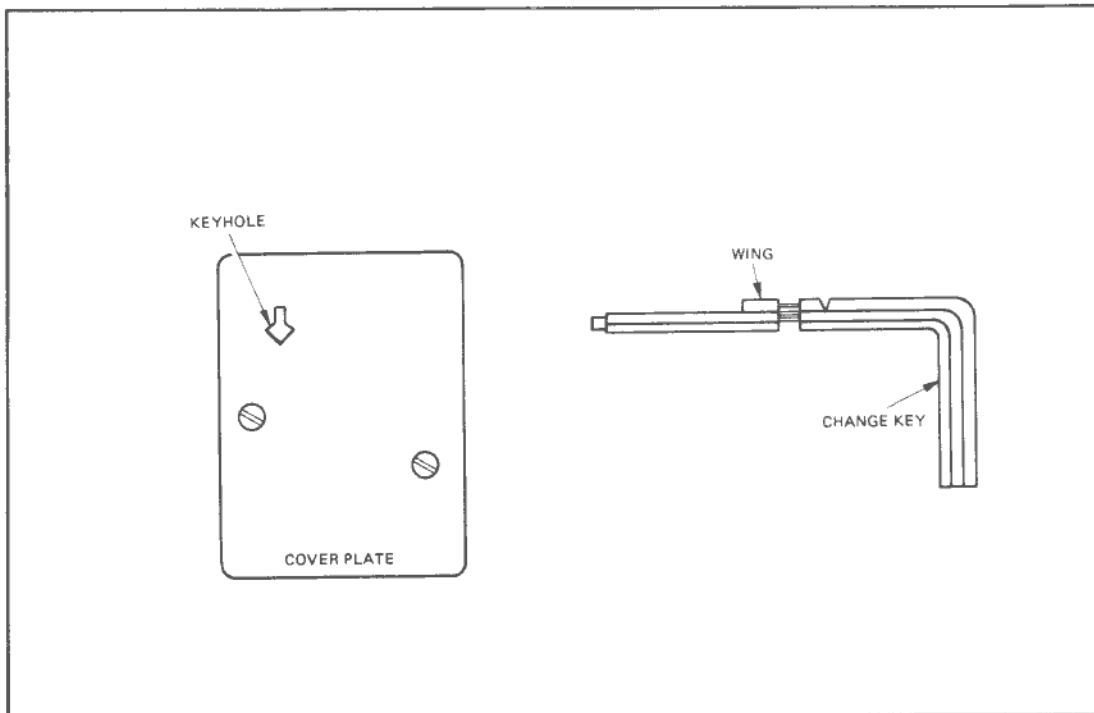

Figure 3-11. Cover Plate Keyhole and Change Key
6. Insert the change key into the keyhole in the cover plate on the back of the lock (refer to figure 3-11). Ensure that the wing on the key is completely in the hole, then turn the key a quarter turn anti-clockwise.